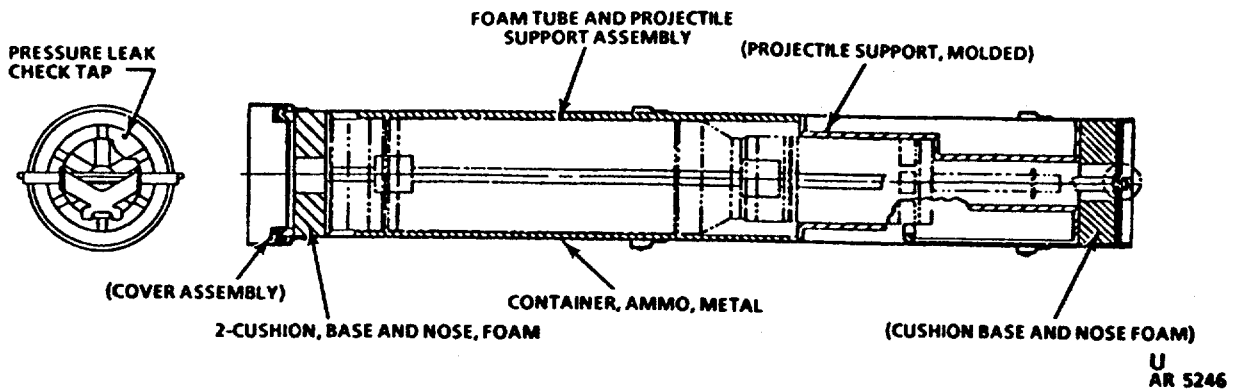

Figure 17. Metal containers, PA116, for Cartridge, 120mm: HEAT-MP-T, M830.
**7. Unpacking Procedures from Metal Containers (figs. 17 and 18).**